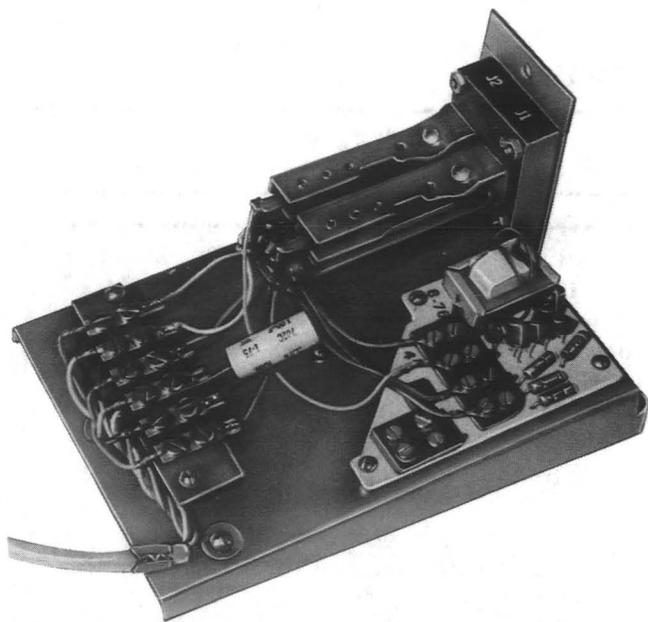

Fig. 5—KS-21428, List 12 Headset Jack Adjunct
2.09 The KS-21428, List 12 headset jack adjunct (Fig. 5) is available for using a headset. When headset is plugged in, the handset ♦must be off-hook and♦ is inoperative.